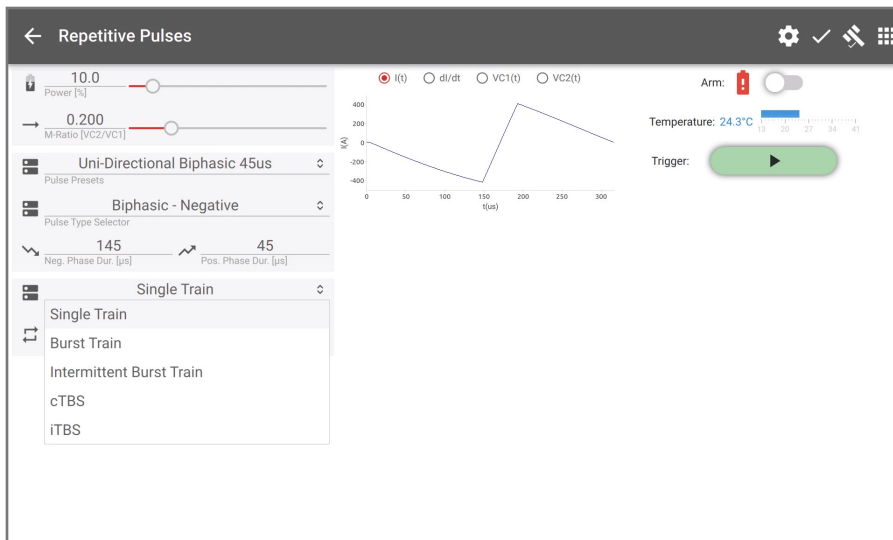

Fig. 4-3: Repetitive Settings screen.
- Tap **REPETITION SETTINGS** to move to the repetition settings screen (Fig. 4-3).